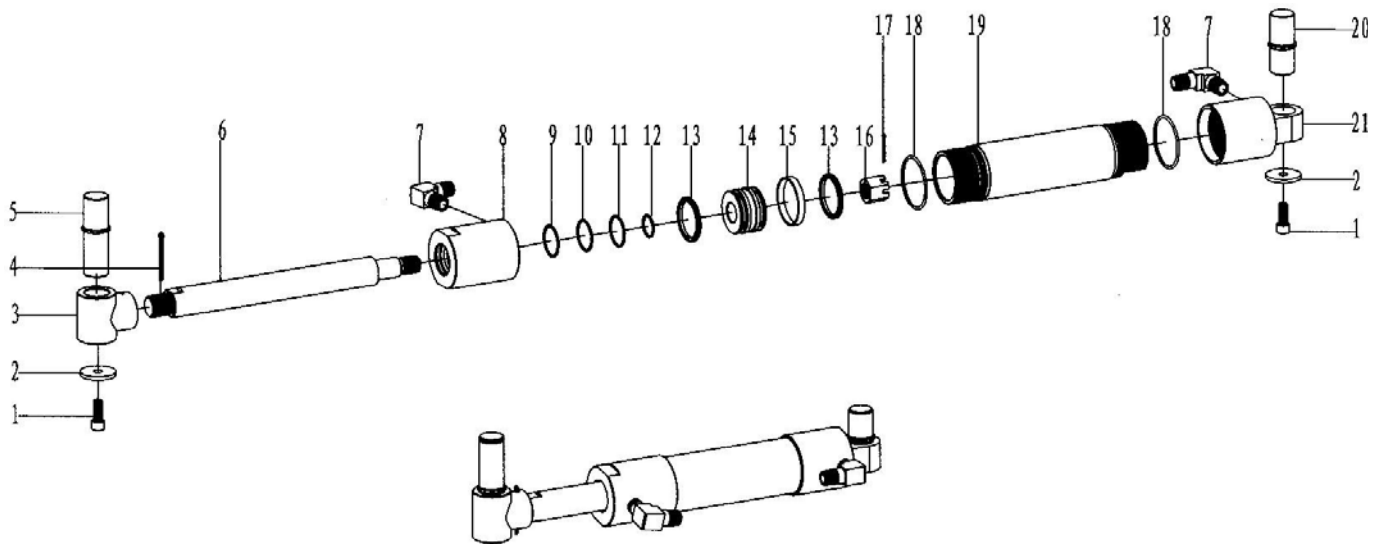

Fig. 23
5. Clamping cylinder assembly (Fig23, Table 20)